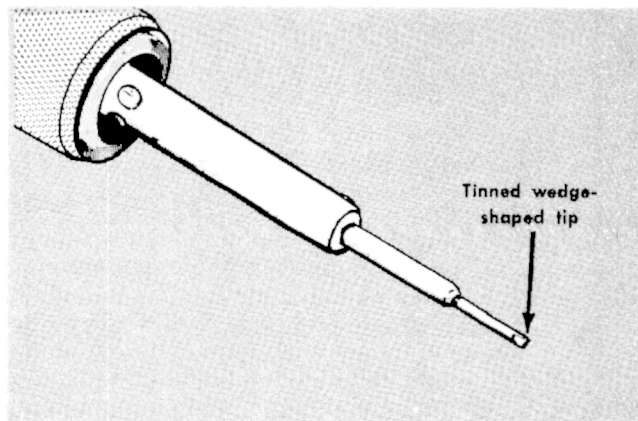

Fig. 4-1. Soldering iron tip properly shaped and tinned.
Because of the shape of the terminals of the ceramic terminal strips, you may prefer to use a wedge-shaped tip on your soldering iron. Such a tip allows you to apply heat directly to the solder in the terminals and reduces the amount of heat required. It is important to use as little heat as possible while producing a full-flow joint. Fig. 4-1 shows the correct shape for the tip of the soldering iron. Be sure to file smooth the surfaces of the tip before tinning. This prevents solder from building up on rough spots where it will quickly oxidize.
2. Prepare the tip of the iron as shown in Fig. 4-1. Tin only the wedge portion of the tip with solder containing 3% silver.